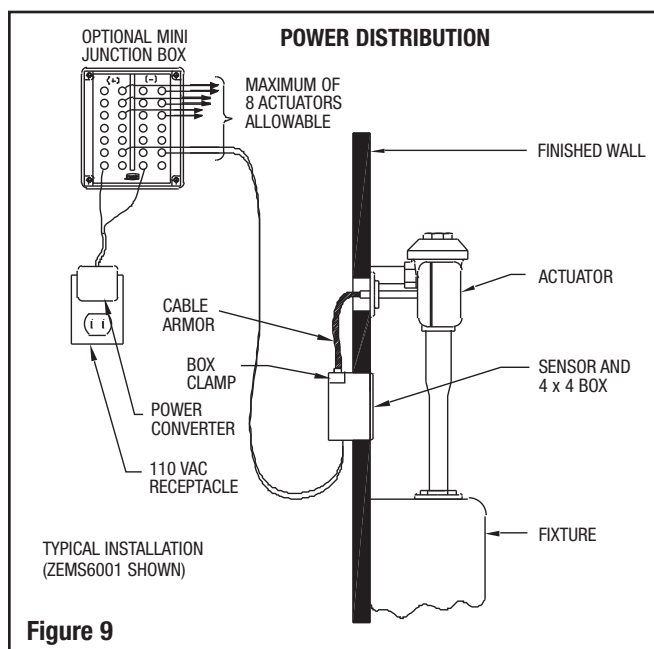

Figure 9
- NOTE:** See Figure 9 for typical installation including optional mini junction box.